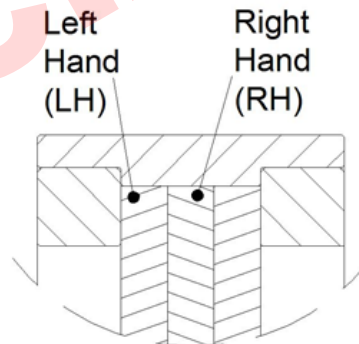

Figure 3 – Crimped Ribbon Element Arrangement for In-Line Flame Arrestors
6. Elements have inclined channels and are wound in a way to create right-hand and left-hand channels. Each element with left-hand channels is followed by an element with right-hand channels. This element arrangement order is critical for the proper functioning of the arrestor. Crimped ribbon elements are marked on the outer edge with the direction of the channels and serial number of the element. During removal this order of the elements should be noted, and the same order must be followed during assembly. Refer to Figure 3 – Crimped Ribbon Element Arrangement.